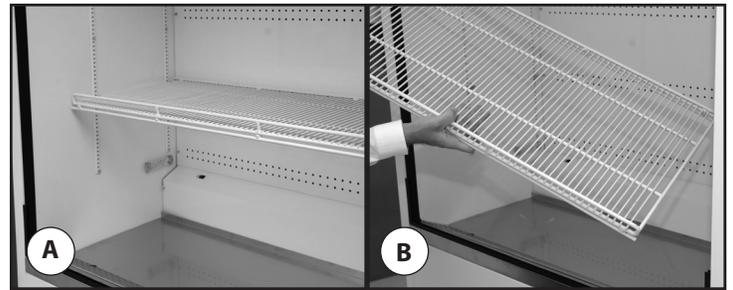

Fig. 1. Turn the shelf around.
1. Turn the wire shelf around. The back of the shelf becomes the front. See fig. 1.